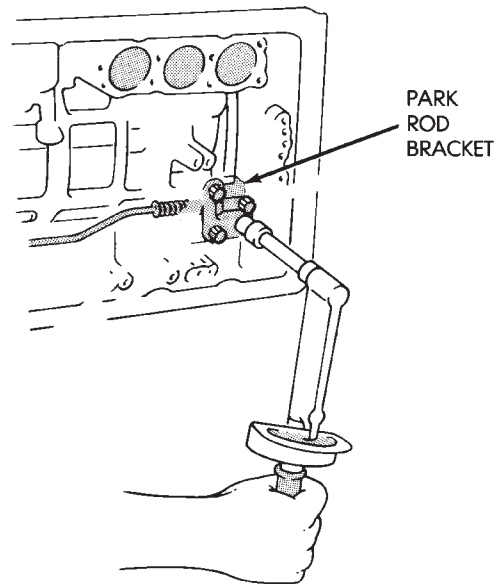

Fig. 76 Removing/Installing Park Rod Bracket
- (1) Remove valve body as outlined in this section.
- (2) Remove bolts attaching park rod bracket to case (Fig. 76).
- (3) Install park rod and bracket (Fig. 76). Tighten bracket bolts to 10 N·m (7 ft. lbs.) torque.
- (4) Install valve body, oil screen and oil pan.